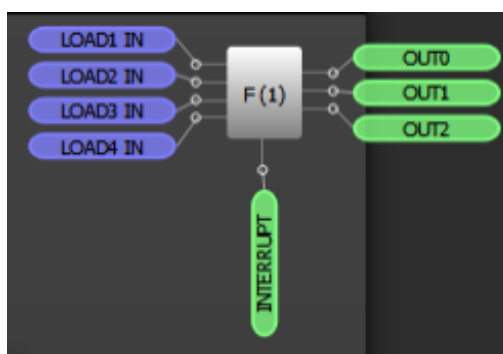

Figure 7: F(1) Block
The computational macrocell (Figure 7) is a new component used to execute a predetermined sequence of actions during a state transition. This macrocell provides up to 4 different F(1) computations, each capable of executing up to 12 commands and holding 16 bits in its register. The list of available commands is shown in Table 1. Commands that specify a LOAD or OUT correspond to the configurable outputs of the F(1) block, shown in Figure 7.